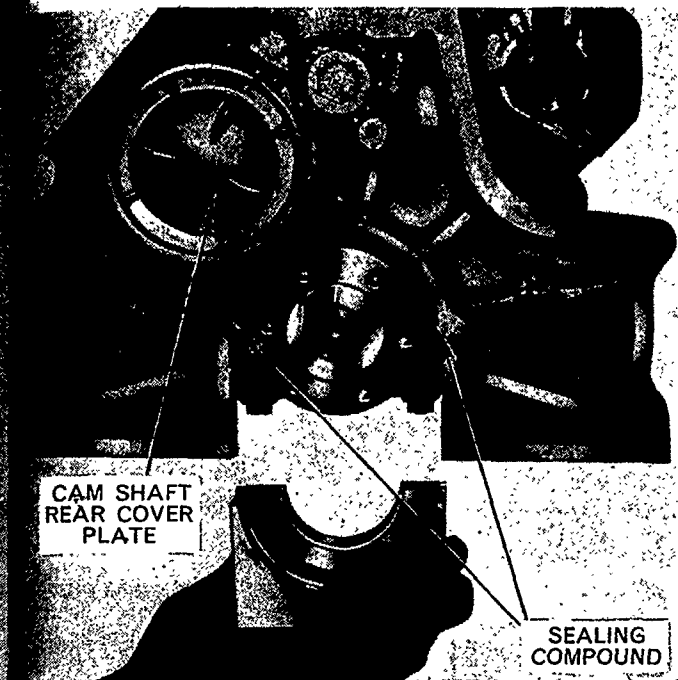

Figure 71
10. Install new side seals in the rear main bearing cap to project slightly beyond the block face of the cap, and assemble the cap and seals into the cylinder block, as shown in Figure 71.